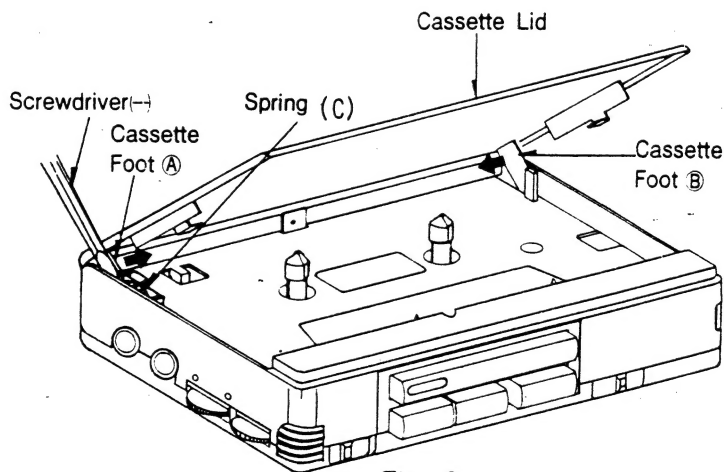

Fig. 3
2. With a screwdriver, push cassette foot ① to the right as shown in Fig. 3, and then pull out the right side of the cassette lid.
3. Push cassette foot ② to the left and then pull out the cassette lid.
4. Remove the spring. (C)×1.